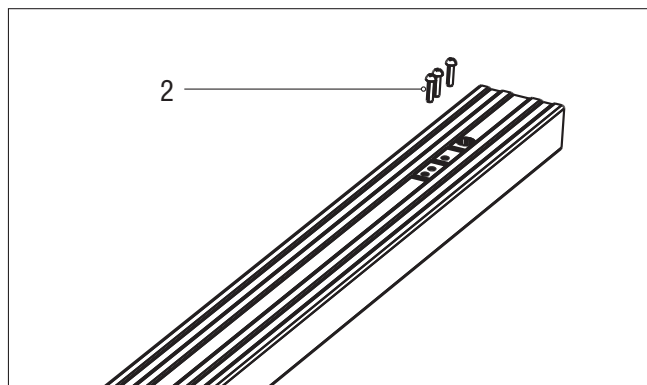

Fig. 2
3. Unfasten screws of a sprocket holder, pos. 2 (fig. 2).